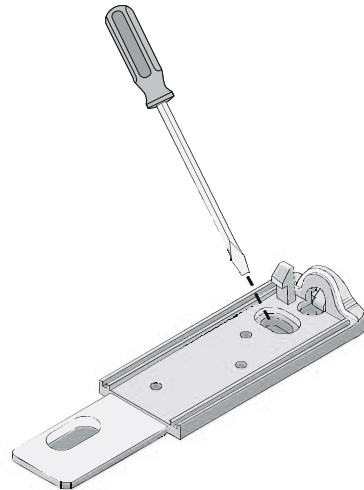

fig. 6b
3. Mark the first (horizontal) fixing point of the lower base (fig. 6b).